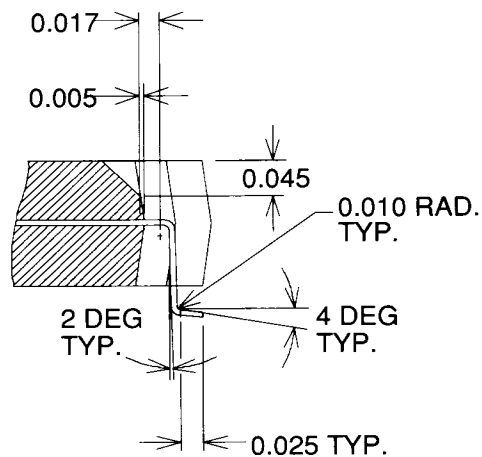

FIGURE D-1. 132-PIN PQFP PACKAGE DIMENSIONS (CONTINUED)
D.0 PACKAGE DIMENSIONS AND SPECIFICATIONS**FIGURE D-1. 132-PIN PQFP PACKAGE DIMENSIONS**